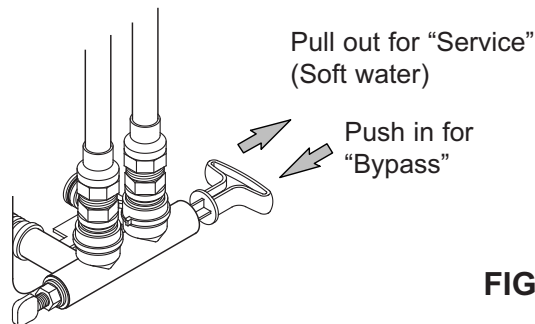
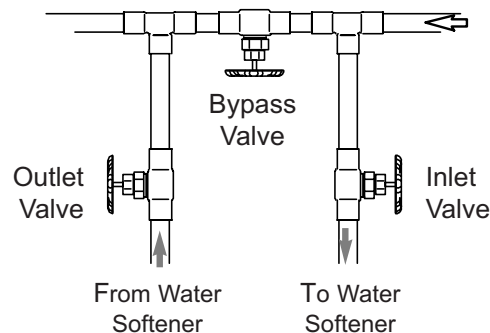

FIG. 6
FIG. 7
Always install either a single bypass valve (provided), as shown in Figure 6, or, if desired, parts for a 3 valve bypass system (not included) can be purchased and assembled, as shown in Figure 7. Bypass valves allow you to turn off water to the softener for maintenance if needed, but still have water in house pipes. Pipe fittings must be 1.9 cm minimum.
**CAUTION:** The house cold water pipe (metal only) is often used as a ground for the house electrical system. The 3-valve bypass type of installation, shown in Figure 7, will maintain ground continuity. If you use a plastic bypass valve at the unit, continuity is broken. To restore the ground, do the following:
2. Place the bypass valve (single or 3 valve) into the "bypass" position. See Figures 6 & 7 on Page 4.